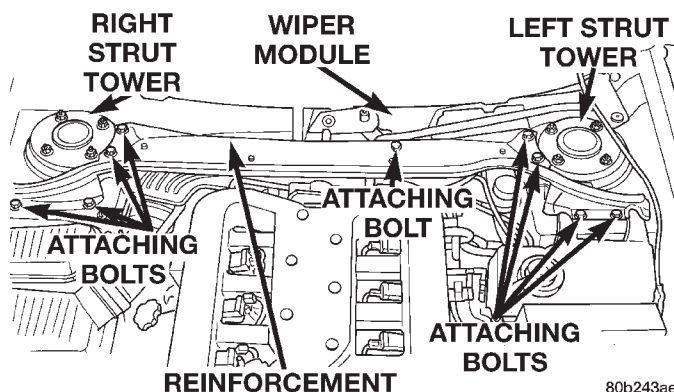

Fig. 5 Reinforcement Attachment To Vehicle
(7) Remove the 8 bolts, attaching the reinforcement (Fig. 5) to the strut towers and the 1 bolt (Fig. 5) attaching the wiper module to the reinforcement. Remove the reinforcement from the vehicle.